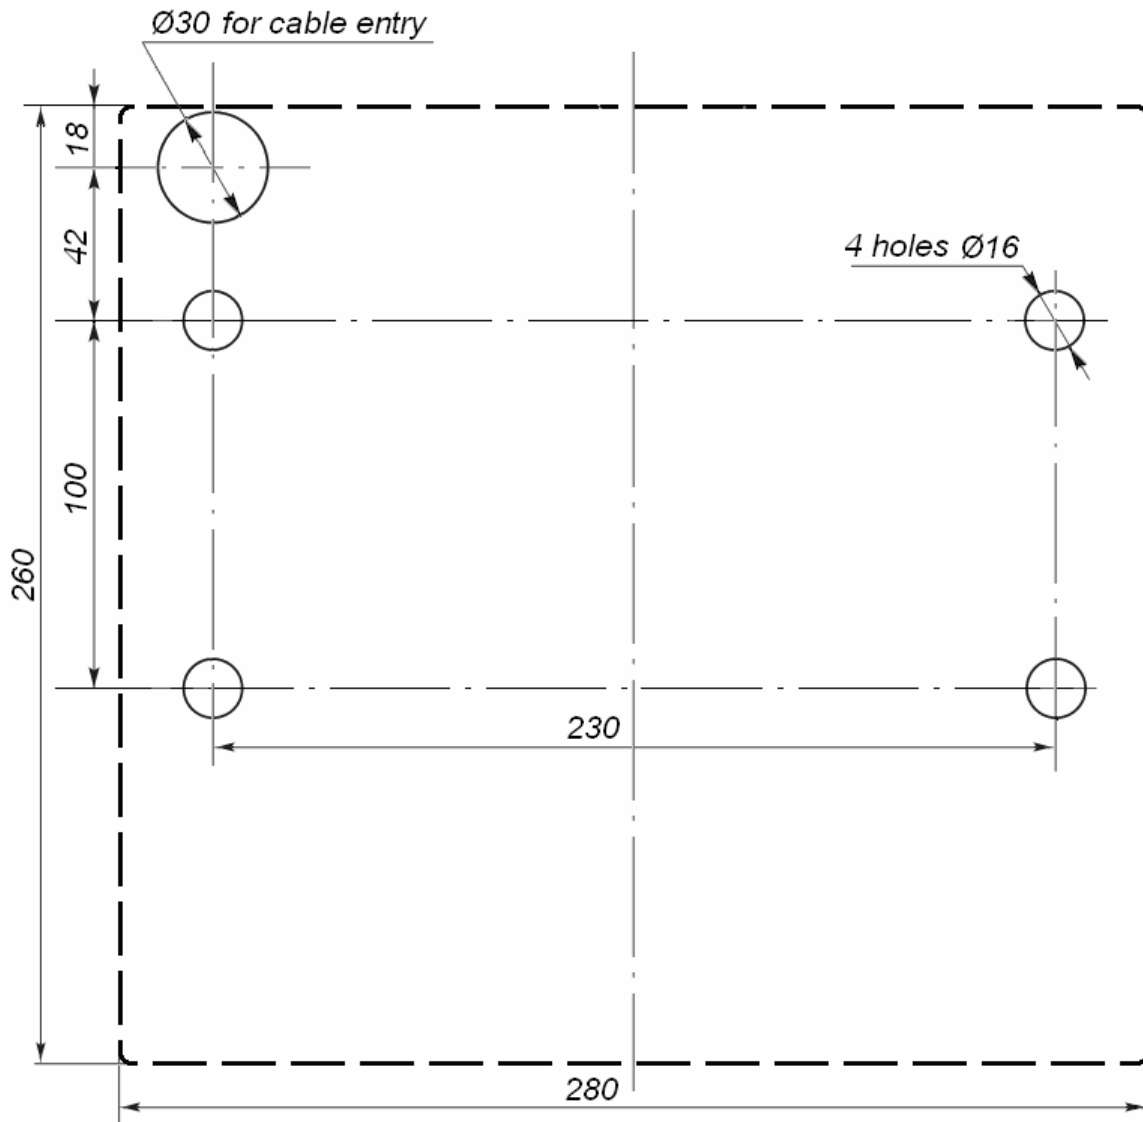

Figure 9. Anchor bolts position and cable entries for the housing installation
2. Make the holes for anchor bolt sleeves for the turnstile housing installation (Fig. 9).
3. Insert sleeves for anchor bolts into the holes so that they do not stick out above the floor surface. Set up the housing and fix it with the M10 bolts using the S17 socket wrench. Put the plastic plugs (14) in their places.
If you lay out cables under the floor surface, make an electric raceway to the cables laying zone of the turnstile housing (option 1 or 2 in Fig. 9). Fix the housing after laying the cables in the electric raceway and inside the turnstile housing.